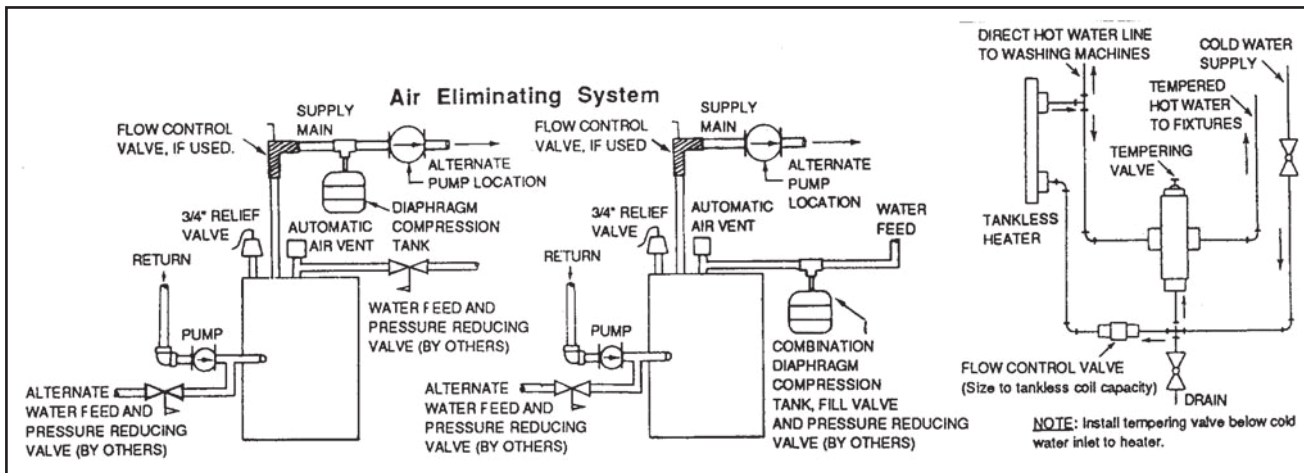

Figure 10. Piping arrangement
- A. Packaged water boilers are equipped with a water circulating pump, mounted to return the water into the boiler. For some installations, the pump should be on the supply main. See figure 10.
- A. **DIAPHRAGM-TYPE COMPRESSION TANKS** are used to control system pressure in an **AIR ELIMINATING SYSTEM**: an automatic air vent is used to REMOVE air from the system water. See figure 8. If system pressure needs further control, add an additional tank or install a larger capacity tank. Locate the tank near the boiler, as illustrated. An automatic air vent should be installed in the top of the boiler or air purger. See figure 10.